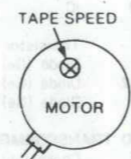

Fig. 12
2. Adjust VR until 3000Hz ± 90Hz is read on the counter. (Refer to fig.12)